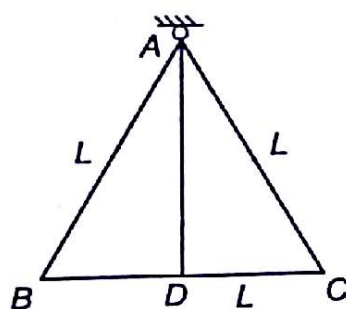

Fig. 9.32
9.1 An equilateral triangular frame ABC of side L is shown in Fig. 9.32. A vertical member of AD of negligible weight is also connected. Weight of each side of frame is W . What is tension in member AD ?